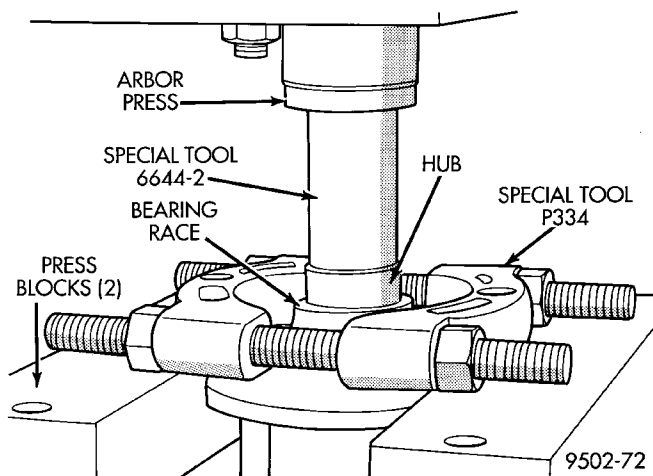

Fig. 48 Removing Bearing Race From Hub
(8) Install Bearing Splitter, Special Tool P334 on hub so it is between the flange of the hub and the bearing race remaining on the hub (Fig. 48). Place hub, bearing race and the bearing splitter in an arbor press as shown in (Fig. 48). Place Driver, Special Tool 6644-2 on end of hub (Fig. 48). Press the hub out of the bearing race.